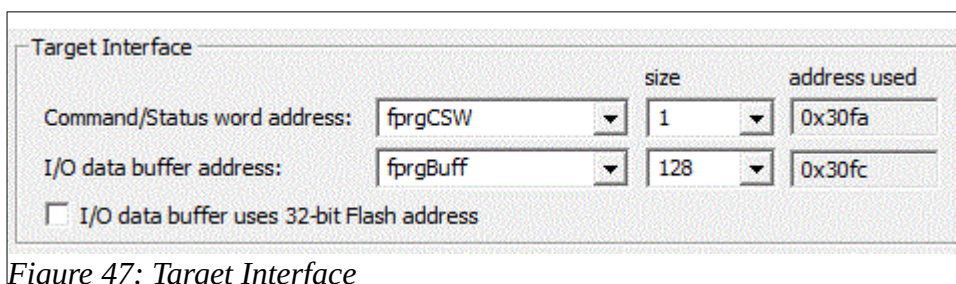
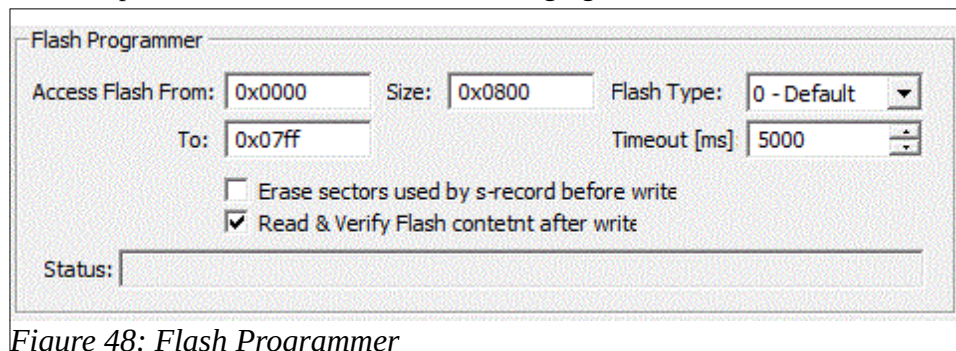

Figure 47: Target Interface
Figure 48: Flash Programmer
2. Make sure the top is all set as in Figure 47 and in the lower part as in the figure 48.